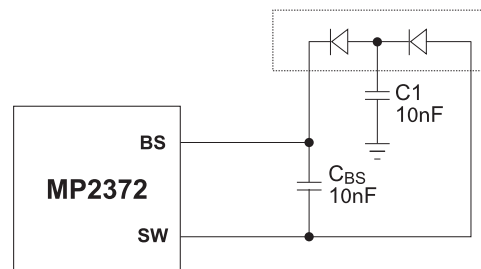

Figure 4— External Bootstrap Diode Circuit
6. For 5V input voltage, the MP2372 can't output 3.3V/3A because of the little charge time of the bootstrap capacitor. An external charge circuit can be a solution as shown in Figure 4. D1 integrates two diodes in SOT-523 package such as BAV199T which will not increase the space of the PCB and the cost. The additional capacitor C1 can be only 10nF.